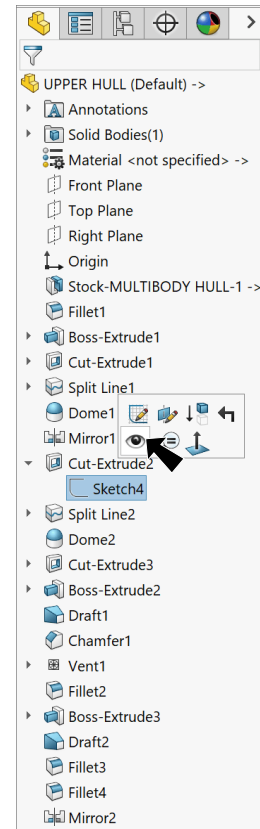

Fig. 97
Step 2. **Show Sketch4.** To show, expand **Cut-Extrude2** in the Feature Manager, click **Sketch4** and **Show**  on the context toolbar, **Fig. 97.**